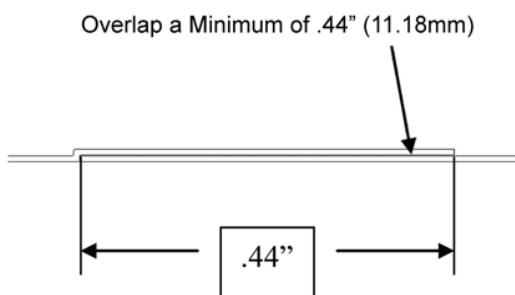

Figure 4 : Overlap of gasket tape
- (b) After the gasket tape has been placed around the entire circumference, overlap the starting end of the tape by a minimum of 0.44" (11.2 mm). See **Figure 4**.